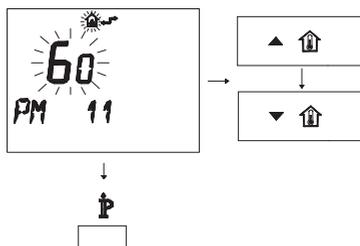

Fig. 7.34
- To modify the programmed SET, act on buttons **▲** and **⬆** or **▼** and **⬆** and wait for the programmed number to flash (Fig. 7.34). Each step increased or decreased corresponds to 1 second.